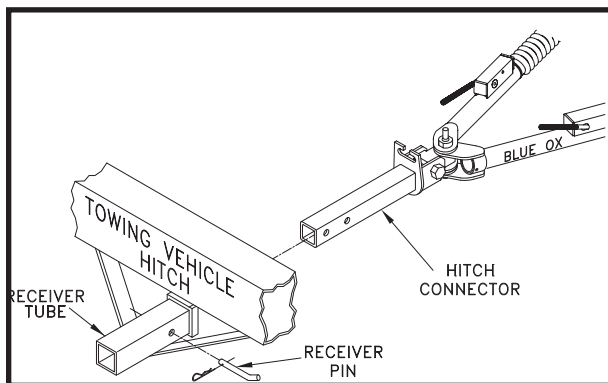

Figure 1
- NOTE: Do not wrap safety cables around legs or damage could occur to the rubber boots. If it is necessary to remove slack from the cables, wrap each once around their respective tow bar legs in front of the latch housing and then cross them under the tow bar.** (See Fig. 1)
1. Slide the hitch connector into the receiver tube of your towing vehicle hitch. Secure the receiver pin provided into one of the two holes of the hitch receiver. The inside hole of the receiver tube is most commonly used. (Figure 1) Blue Ox offers receiver and towbar lock sets (BX88101) (BX88177) that help prevent theft. Contact Blue Ox for more information.